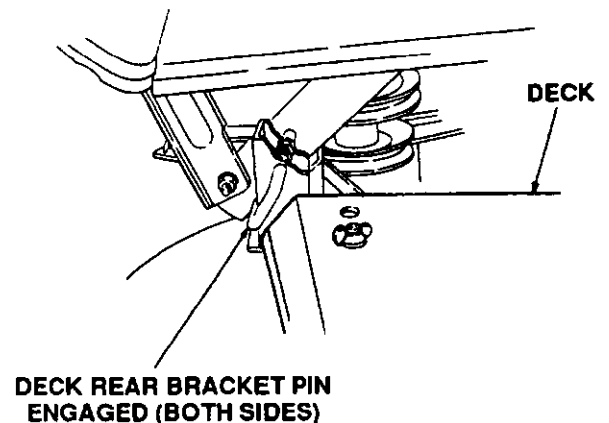

Figure 17
12. Carefully engage tractor implement lift links (left and right) into deck rear bracket slots (left and right) as tractor implement lift handle is lowered to its lowest setting. (Refer to Figure 17.)